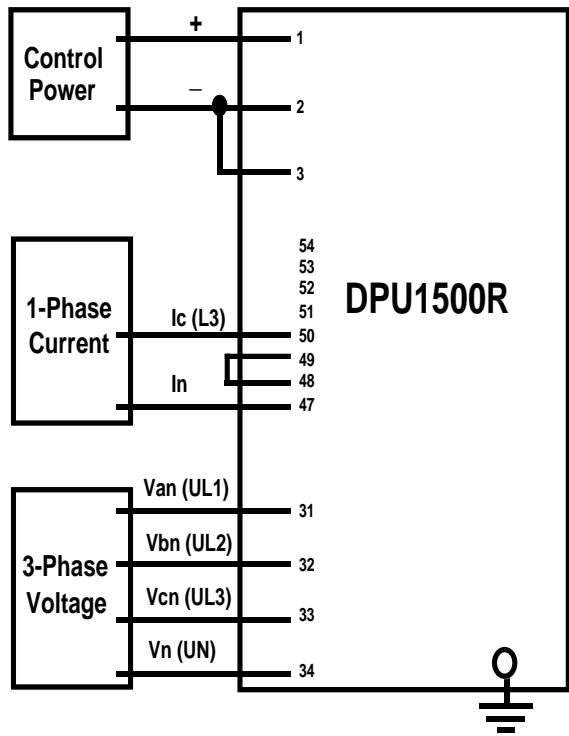

Figure 11-4. Test Circuit for 51N (IN>), 50N-1(IN>>1), 50P-2 (3I>>2), 50N-2 (IN>>2), 50P-3 (3I>>3), 50N-3 (IN>>3) and 2-Phase 50P (3I>>) Functions
4. Connect the DPU1500R as shown in Figure 11-4. Apply 3.0 A to C (L3)-Phase and the Neutral. Read the current from the Metering Menu as above. The currents I_c and I_n should be $300.0 \pm 6 \text{ A}$.
4. Connect the DPU1500R as shown in Figure 11-4. Repeat Step 2 to confirm the continuity and accuracy of phase C (L3) and Neutral.
6. Apply 4.5 A to the DPU1500R as shown in Figure 11-4. Gradually increase the current until the PICKUP LED just lights. This should be within $\pm 3\%$ of the pickup (5 A). This confirms the ground pickup.
- b. Connect the DPU1500R as shown in Figure 11-4.
- f. Connect the test set as shown in Figure 11-4, repeat tests c, d and e. This should confirm that the relay does not trip and no INST targets light.
8. Disable the 50P-2 (3I>>2) and the 2-Phase 50P (3I>>) functions via the "Change Settings", "Primary Settings" Menus. Connect the DPU1500R as shown in Figure 11-4 and map GRD (IN) to an available input (ex: IN4) with logic "C", in the programmable inputs screen. (This will disable the GRD (IN) function.) Apply the fault as in step 2 and confirm that the relay will not trip on 50N-1(IN>>1).